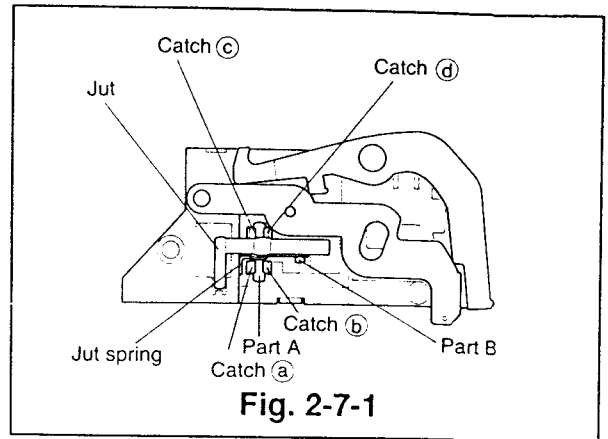

Fig. 2-7-1
- ① Follow the removal method in Items ① to ⑥ of Para. 2-6.
- ② Unfasten the four catches(Ⓐ,Ⓑ,Ⓒ and Ⓓ) shown in Fig. 2-7-1 to remove the jut and the jut spring.
- ① Install the jut and the jut spring as shown in Fig. 2-7-1. (Insert the jut spring into the part A of the jut before installing the jut. Hook one end of the jut spring with the outside of the catch(Ⓐ) and the other end with part B of the jut.)
- ② Install the bottom plate according to the installation method in ③ of Para. 2-6.
- ③ Follow the installation method in Item ⑤ to ⑧ in Para. 2-2.